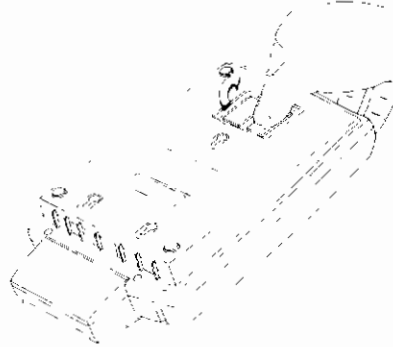

Figure 17 Sliding the Cardholder Locking-Clasp
5. Slide the cardholder locking-clasp in the direction indicated by the engraved arrow to the **OPEN** position, as displayed in Figure 17.